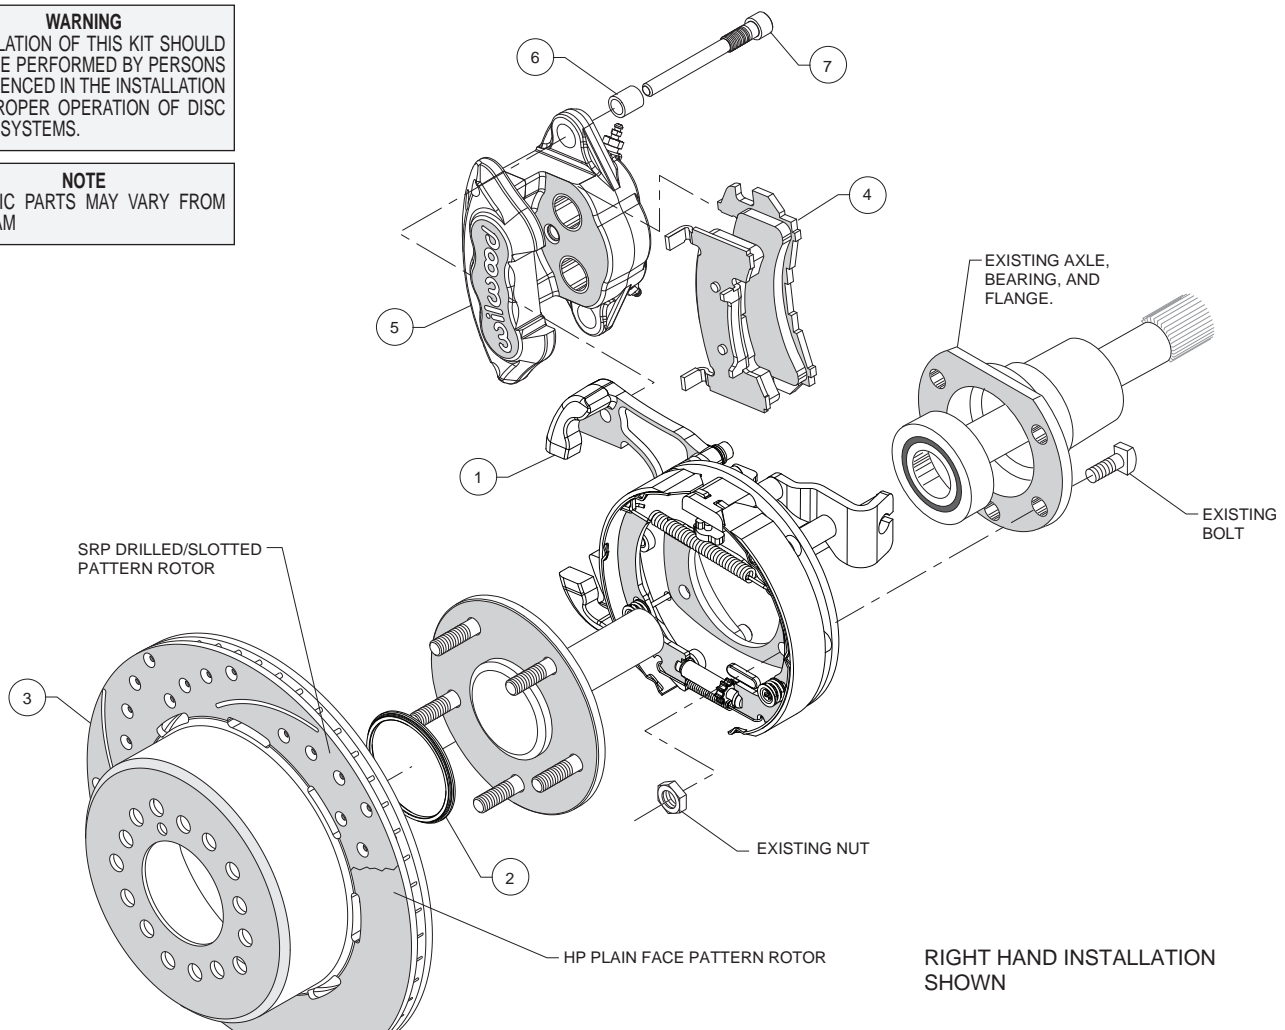

Figure 1. Typical Installation Configuration
**Assembly Instructions** (numbers in parenthesis refer to the parts list, and Figure 1 on the preceding pages): **CAUTION:** All mounting bolts must fully engage threaded holes.
- Orient the bracket assembly (1) as shown in Figure 1, and mount to the axle housing flange using the Original Equipment Manufacturer (OEM) bolts and nuts, Figure 1. Ensure that the bracket assembly backing plate fits flush against the axle housing flange. Apply red *Loctite*® 271 to the OEM bolt threads and torque to OEM specifications.
- Slide the rotor registration adapter (2) onto the axle register on the axle flange with the smaller O.D. facing toward the rotor/hat (3), Photo 1. Align the correct hole pattern in the rotor/hat with the stud pattern on the axle flange and slide into place, Figure 1 and Photo 2. **NOTE:** The rotor/hat must fit flush against the axle flange or excessive rotor run out may result. Install three lug nuts (finger tight) to keep the rotor/hat assembly in place while continuing with the installation. **NOTE:** Some OEM and after market axles come with stud sizes larger than 0.50" diameter. Verify stud size and have a qualified machine shop drill the bolt circle of the hat/rotor to the correct stud size, if necessary.
- Install the disc brake pads (4) into the caliper (5) with the friction material facing the rotor, as shown in Figure 1 and Photo 3.
- Install sleeves (6) onto slide pin bolts (7). Apply white lithium grease (available from your local auto parts store) to the slide pins/sleeves, as shown in Photo 4. **Do not apply to threads.** Mount the caliper (5) onto the mounting bracket (1) using slide pin bolts, as shown in Figure 1. Torque to 35 ft-lbs.